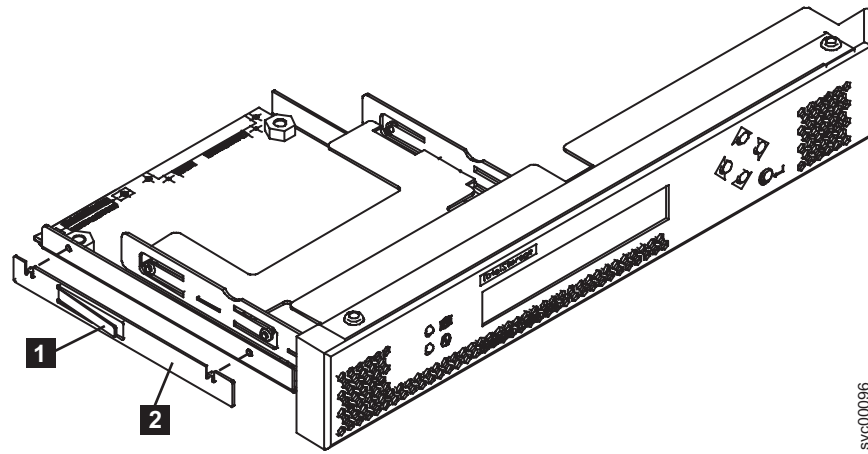

Figure 106. The SAN Volume Controller 2145-8F4 or the SAN Volume Controller 2145-8F2 service controller
1. Place the retention clip (**2** in Figure 106 on page 381) over the locating holes on the left side of the service controller.